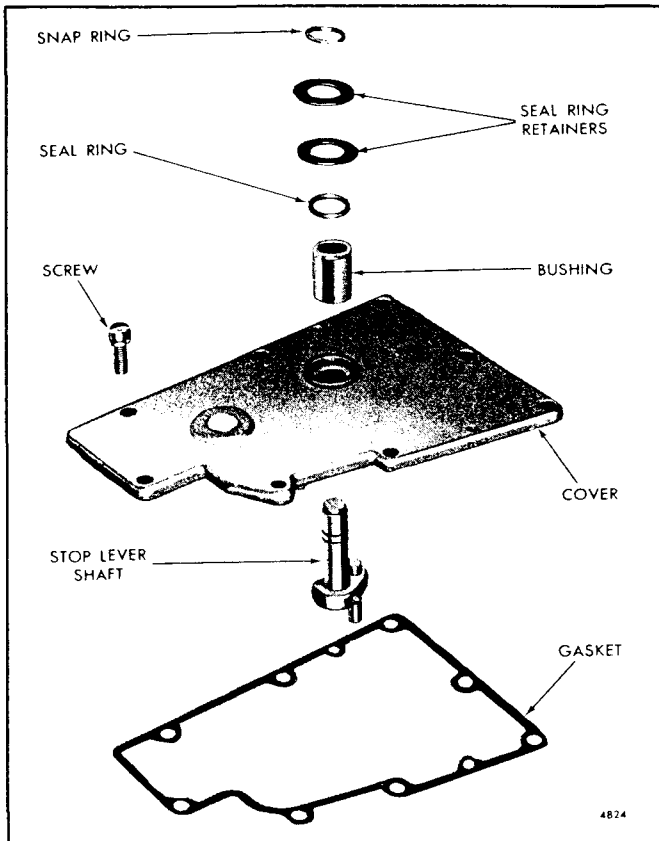
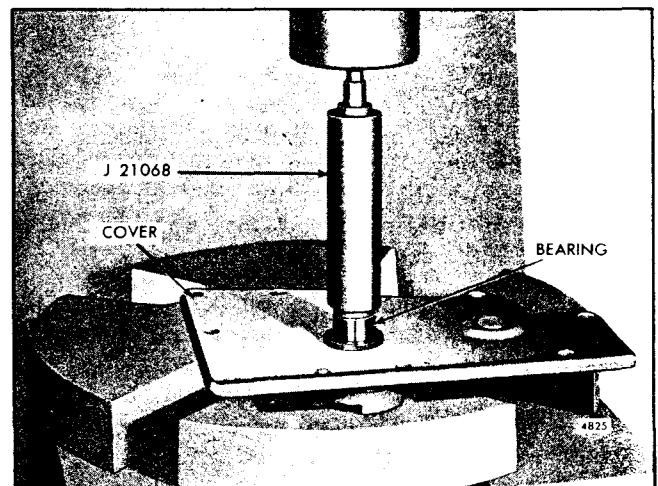

Fig. 16 - Governor Cover Details and Relative Location of Parts
Fig. 17 - Installing Bearings in Governor Cover
6. Refer to Fig. 16 for the location of the various parts and assemble the governor cover as follows:
- a. If the stop lever bushing (Fig. 16) was removed from the cover, place the cover, inner face down, on the bed of an arbor press as shown in Fig. 17. Refer to "NOTE" under *Inspection*, then lubricate the new needle bearing with engine oil and start the bearing, numbered end up, straight in the bearing bore in the cover boss.